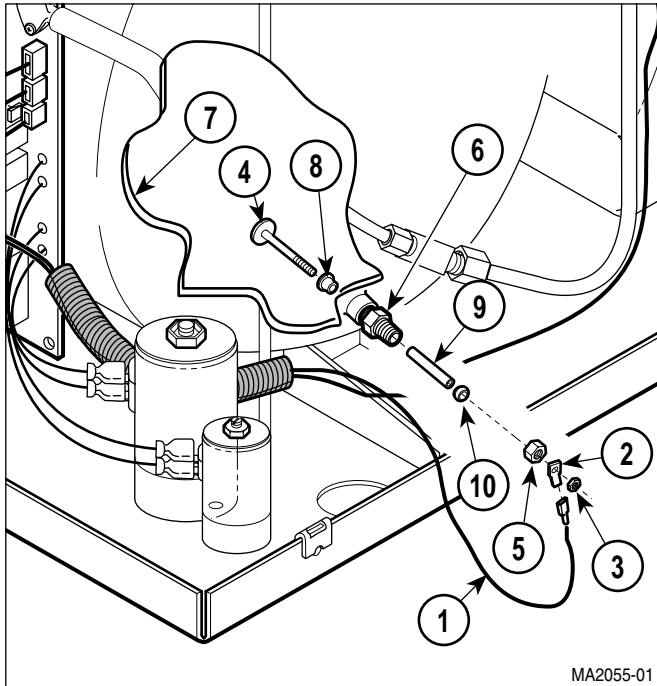

Figure 4-9. Pressure Vessel Water Level Sensor Removal / Installation
- (1) Remove back panel (Refer to para 4.5).
- (2) Remove wire tray rack and tray plate (Refer to para (4-17).
- (3) Disconnect wire (1, Figure 4-9) from terminal (2).
- (4) Remove nut (3) and terminal (2) from level sensor rod (4).
- (5) Remove nut (5).